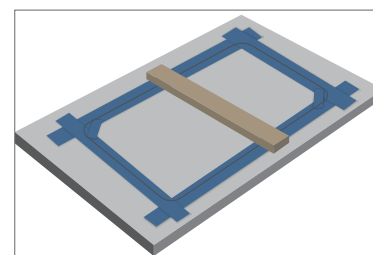

Fig. 7
- Ensure the benchtop is properly supported before you commence cutting the cut-out, making sure the waste part of the benchtop is supported at all times. (see Fig. 7)
- Once completed, hot melt glue fix a piece of timber across the cutout. (see Fig. 7)